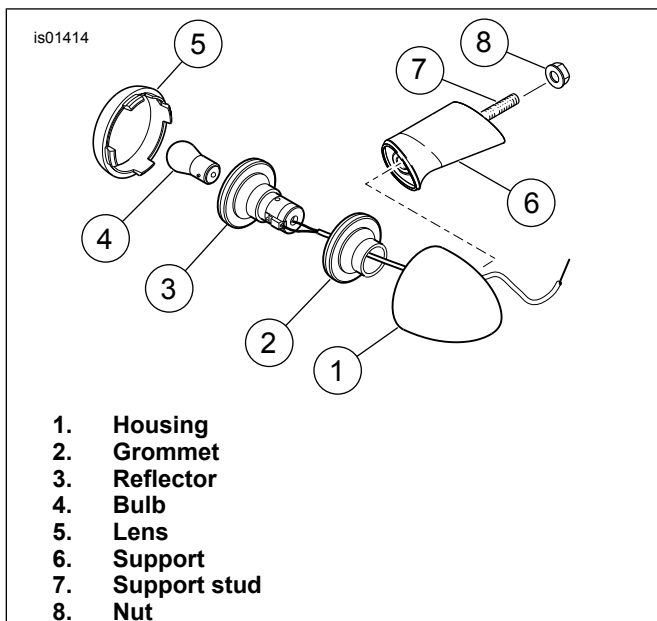

Figure 2. Stock Turn Signal Stalk Removal
1. See Figure 2. Remove the lens (5) from the rear turn signal housing (1).
2. Carefully pry the reflector (3) and grommet (2) from the housing (1). Gently pull the wires out from the housing wire hole.
- Remove and discard the support (6), stud (7), and nut (8).